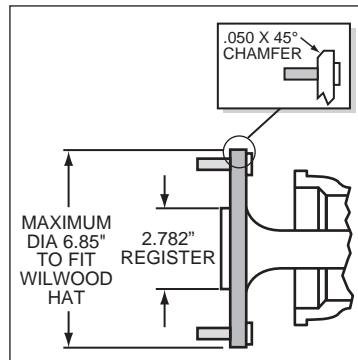

Figure 3. Axle Flange Maximum Dimension
- Axle center register diameter is 2.80", Figure 3. This kit uses Wilwood's removable center register adapters. Rotors can either be centered on the axle register, i.e. *register-centric* or centered on the wheel studs, i.e. *stud-centric*. Due to variations in wheel stud final diameters, *register-centric* centering can be a more accurate method of centering the rotor to the axle. Wilwood offers various diameter adapters for purchase in addition to the ones supplied in this kit, see Table 1.
- Maximum axle flange diameter must be no larger than 6.85" w/.050" x 45° chamfer (see Figure 3). Center register, or pilot of axle must be 2.78" or smaller.